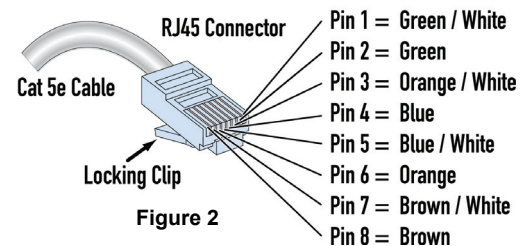

Figure 2
- D. Terminate both ends of the Category 5 cables from the LCD Console, using RJ45 Plugs, according to the T568A wiring standard (see **Figure 2**).